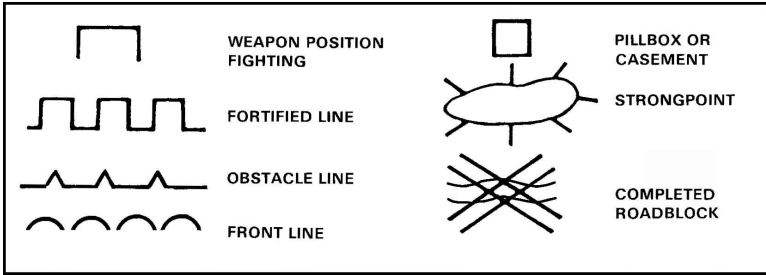

Figure 071-329-1019-11. Fortification and obstacle symbols
- k. Tactical wire symbols (figure 071-329-1019-12).